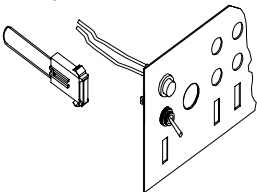

Fig. 3
4. Install the fuse holders from the rear of the panel into the square holes. Press them in until they snap into place. (Fig. 3)